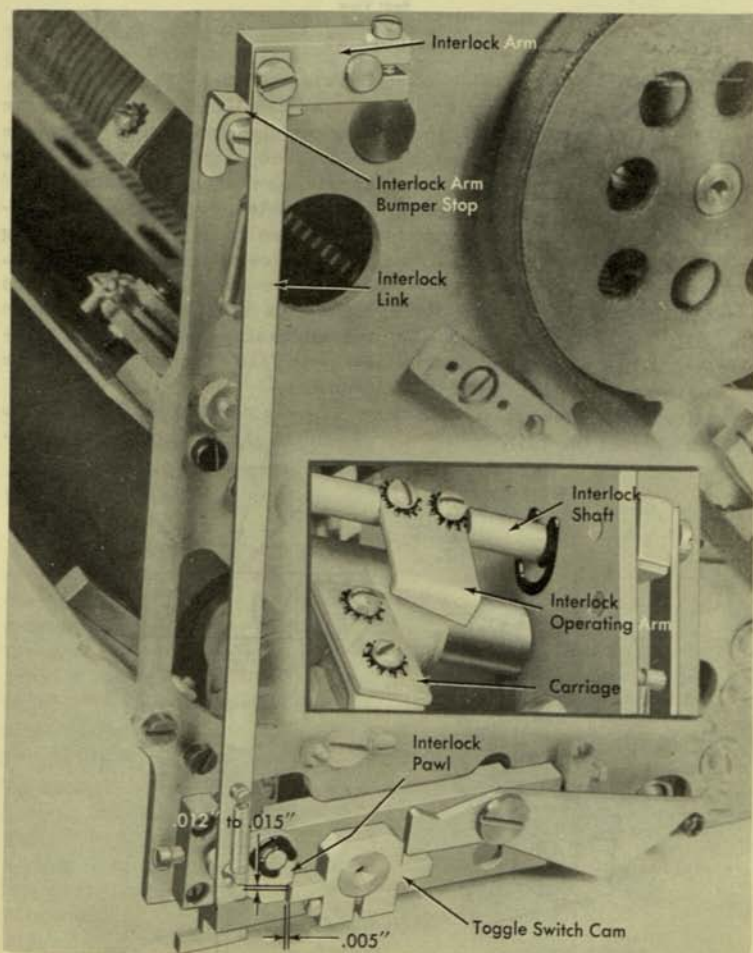

Figure 28
1. Position the toggle switch cam on the reset shaft with the graphprint lever in the upward position for operation of the counter, so that the toggle switch cam rear ledge travels .012" to .015" below the interlock pawl with the carriage out from under the interlock operating arms (Figure 28).